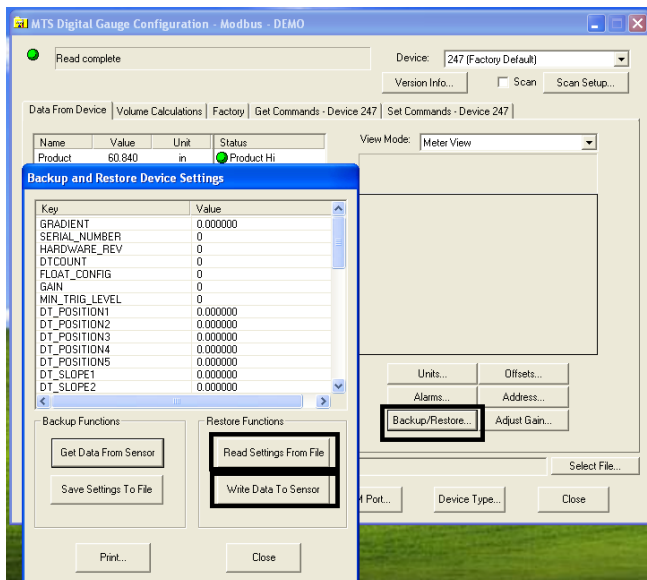

Figure 10. Data from Device window; Backup and restore settings.
1. Launch your setup software and connect to the transmitter. Click the “Data from Device” tab, then click the “Backup/Restore” button. The “Backup and Restore Device Settings” window opens (Figure 10).